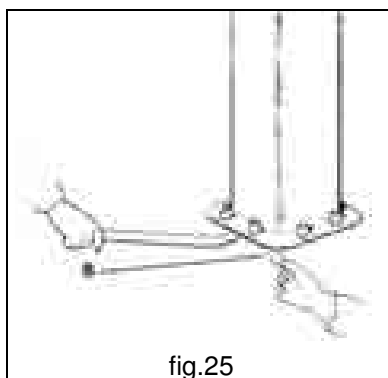

fig.25
- d. The perfect plumbing can be obtained, if necessary, inserting suitable shims **8** (not included in the supply), corresponding to the log bolts, under the base plate (fig. 25).